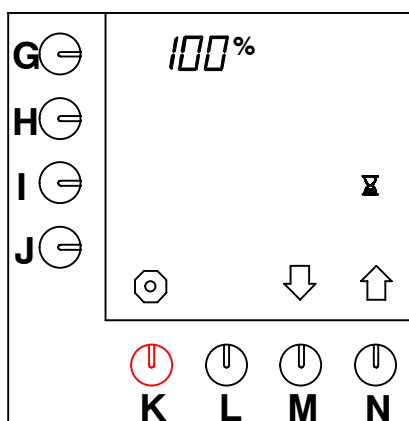

Fig. 46 Pause time 100%
- Press selection key (N.)↑ until fig.46 appears on the display.